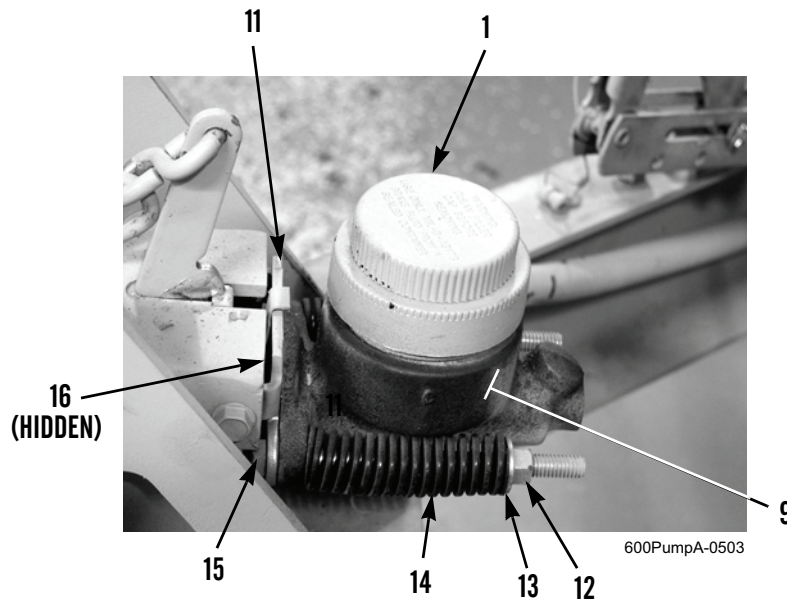
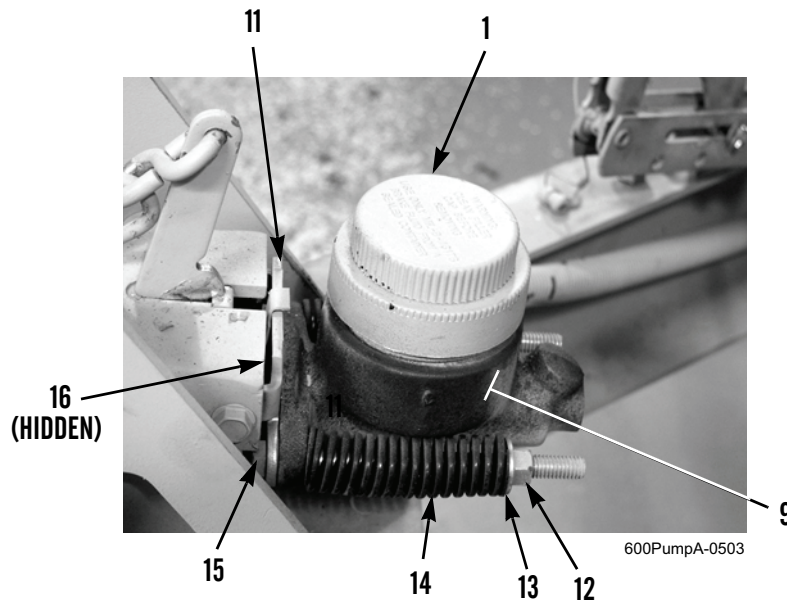

Figure 2. Master Cylinder and Mounting Plate.
Figure 3. Master Cylinder and Mounting Plate.
- Remove two nuts (Figure 2, Item 12), washers (Figure 2, Item 13), springs (Figure 2, Item 14), and capscrews (Figure 2, Item 15) securing master cylinder (Figure 2, Item 9) to master cylinder mounting plate (Figure 2, Item 11).
- Carefully remove master cylinder (Figure 2, Item 9) from master cylinder mounting plate (Figure 2, Item 11) and pushrod assembly (Figure 2, Item 16). Remove cap (Figure 2, Item 1) and drain brake fluid from master cylinder. Dispose of brake fluid IAW using unit's SOP.
1. Carefully install master cylinder (Figure 3, Item 9) on pushrod assembly (Figure 3, Item 16) and master cylinder mounting plate (Figure 2, Item 11).
2. Install two capscrews (Figure 3, Item 15), springs (Figure 3, Item 14), washers (Figure 3, Item 13), and nuts (Figure 3, Item 12) on master cylinder (Figure 2, Item 9) and master cylinder mounting plate (Figure 3, Item 11).
3. Tighten nuts (Figure 3, Item 12) until snug to shoulder. Tighten capscrews and nuts until springs (Figure 2, Item 14) are compressed to a dimension of 3-1/4 in. $\pm 1/16$ in. (82.55 ± 1.59 mm).
4. Remove cap (Figure 3, Item 1) from master cylinder (Figure 3, Item 9).
5. Install access cover (Figure 3, Item 2) on actuator housing (Figure 3, Item 10). Reinstall cap (Figure 3, Item 1) on master cylinder (Figure 3, Item 9).